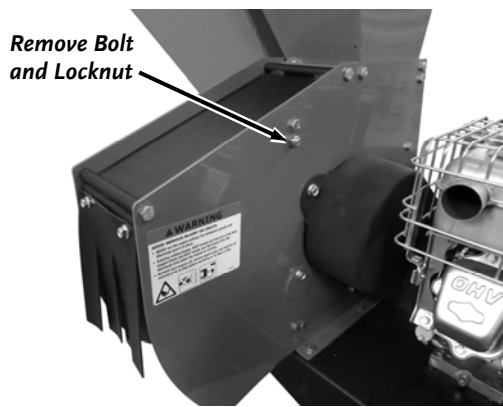

Figure 26
1. Remove the top Screen Bolt and Locknut using two 1/2" Wrenches (Figure 26).